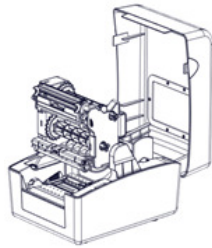

Fig. 2.2.2
- 2) Press the open spanner, and turn the ribbon holder to the angle shown in the figure after it is lifted (see Fig. 2.2.2);